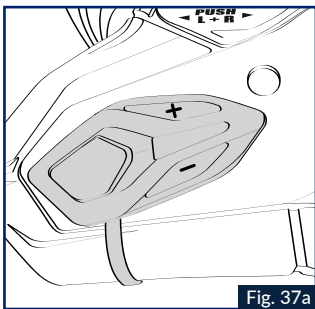
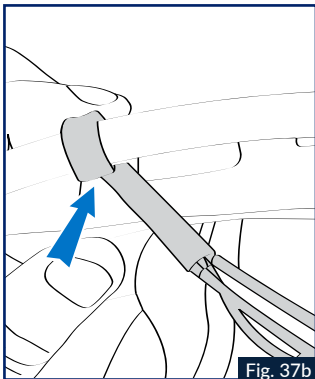

Fig. 37a
Fig. 37b
8. Affix the main keypad to the defined location (Fig. 37a), using the double-sided tape provided on the keypad, insert the flat cable between the shell and the polystyrene cheek piece to the left of the clipping (red part) as shown in Fig. 37b.